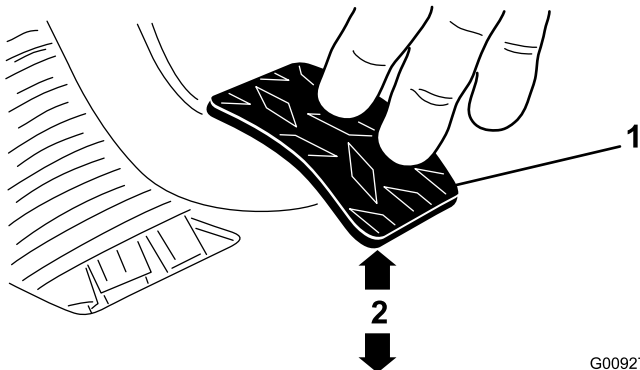

Figure 61
3. Adjust the jam nuts or ball joint until the rear edge of the clutch pedal is 9.2 to 9.8 cm (3-5/8 to 3-7/8 inches) from the top of the floor plate diamond pattern, when an 1.8 kg (4 lb) force is applied to the pedal (Figure 61).